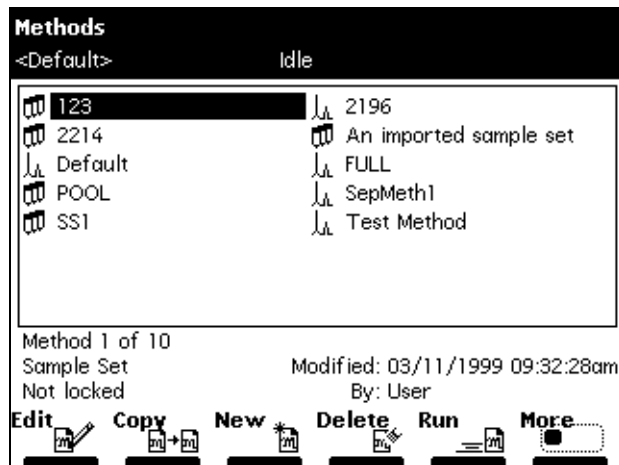

Figure 5-1 Methods Screen
You create and edit separation methods and sample sets using the Methods screen (Figure 5-1) and six method parameter screens. In the Methods screen, separation methods are identified by a chromatogram icon  and sample sets are identified by a multiple vial icon . To create or edit a sample set, see Section 5.3. Creating and Editing Sample Sets.
1. Press the **Develop Methods** screen key in the Main screen. The Methods screen (Figure 5-1) appears.
1. Press the **Develop Methods** screen key in the Main screen. The Methods screen appears (Figure 5-1).